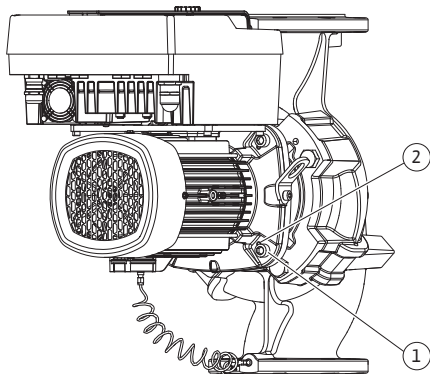

Fig. 10: Pressing off the motor impeller unit via threaded holes
5. Press the motor impeller unit (see Fig. 4) off the pump housing. Use the two threaded holes for this (see Fig. 10). Screw M10 screws with a suitable length into the threaded holes to loosen the seat.
6. Press the motor impeller unit (see Fig. 4) off the pump housing. Use the two threaded holes for this (see Fig. 10). Screw M10 screws with a suitable length into the threaded holes to loosen the seat.